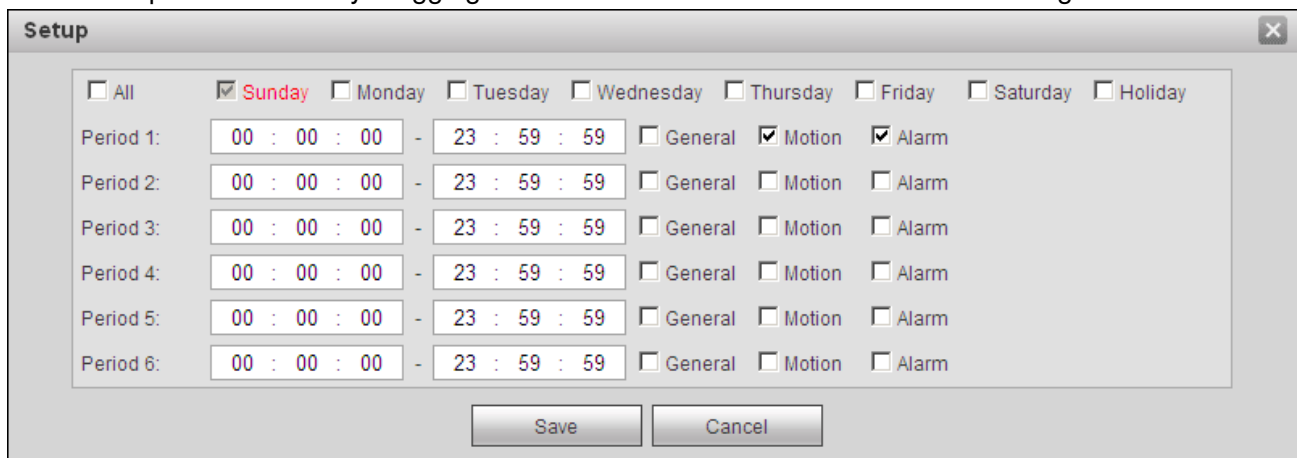

Figure 5-90
Step 2. From Monday to Sunday select record time, click on setup on the right, see Figure 5-90.